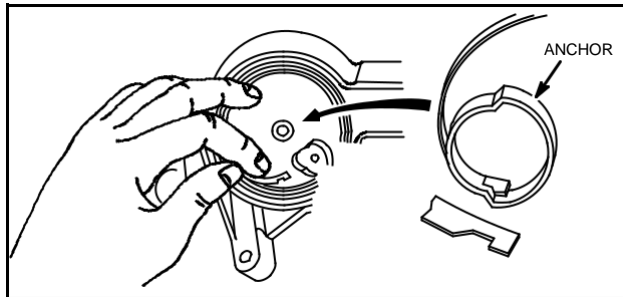

Fig. 628 – INSTALLING SPRING ANCHOR
4. Install spring anchor on free end of spring and install pulley cover, Fig. 628. Do not install anchor screw at this time.